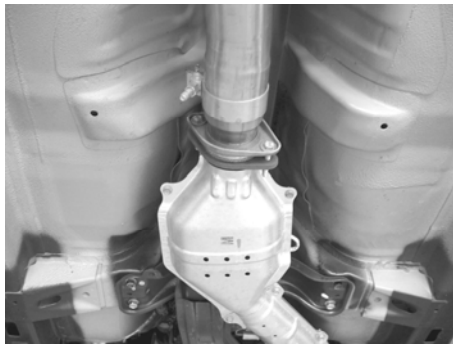

Figure 3
1. Place the flared front pipe/flange assembly in position as shown in figure 3 securing it to the vehicle manufacturer recommendations using the supplied hardware and the original gasket.